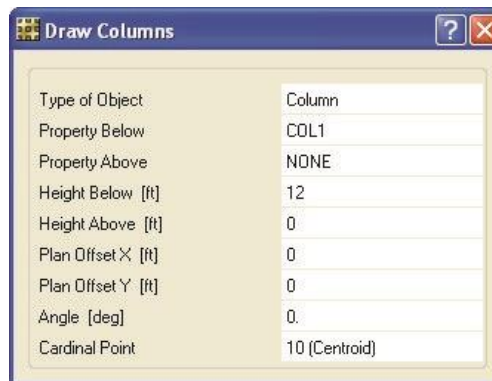

Figure 23 Draw Columns form
- A. Click the Draw menu > Draw Columns command to access the Draw Columns form shown in Figure 23.